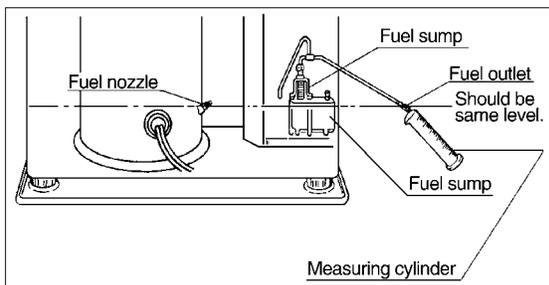

Figure 5-2
- Disconnect the fuel pipe from the fuel nozzle and leave. Rotate the pipe 180 degrees so that the fuel outlet of the pipe can be exposed. See Figure 5-2.
- insert the fuel outlet of the fuel pipe into the measuring cylinder (100 or 250 ml.), keeping the fuel outlet at the same level as the original (fuel inlet of the fuel nozzle). See Figure 5-2.